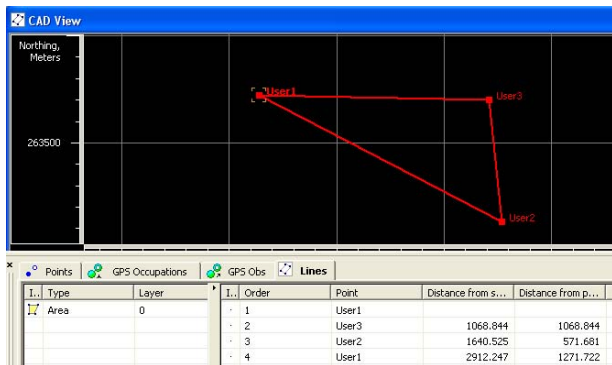

Figure 3-11. Creating a Closed Figure
4. To create a closed figure, append the finish point to the last segment and the start point of the first segment to the line (Figure 3-11).